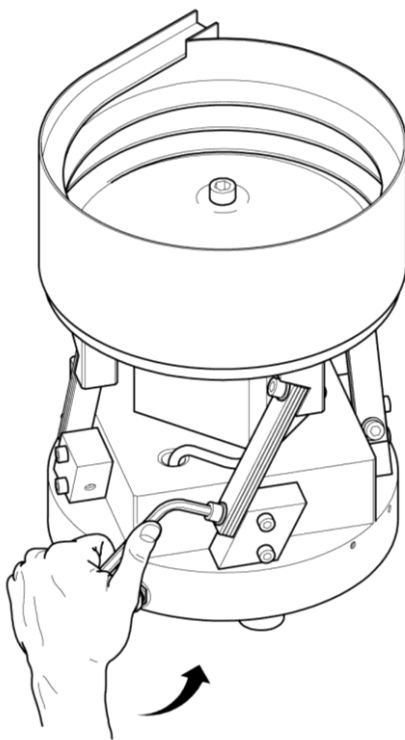

Figure 10
5. **Slowly** unscrew the lower fixing screw on a spring package (see Figure 10). Loosening this screw alters the transport speed of the parts in the bowl